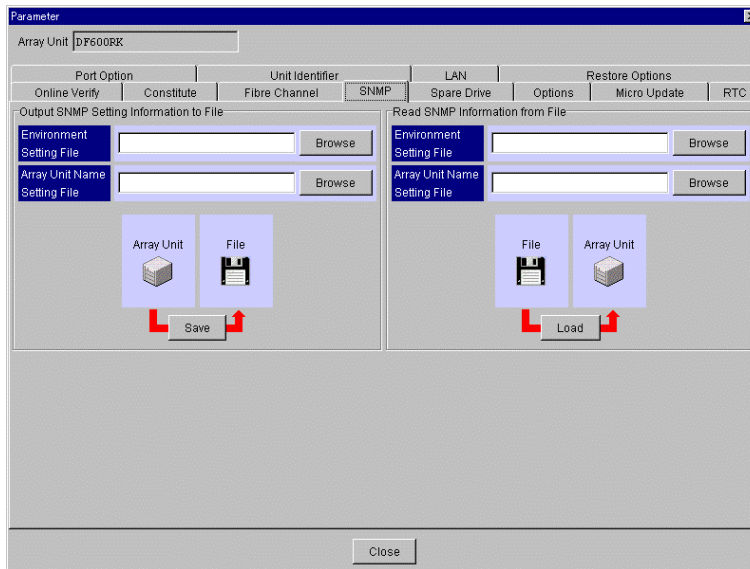

Figure 5.6 Parameter Dialogue Box (SNMP Tab)
3. Select **Configuration Settings** . The **Parameter** dialog box is displayed (Figure 5.6).
4. Click the SNMP tab (refer to Figure 5.6).